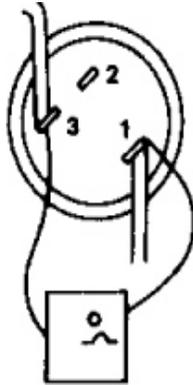

Figure 10. Overload Check
3. Compressor thermal overload, automatic reset type. See Figure 10.